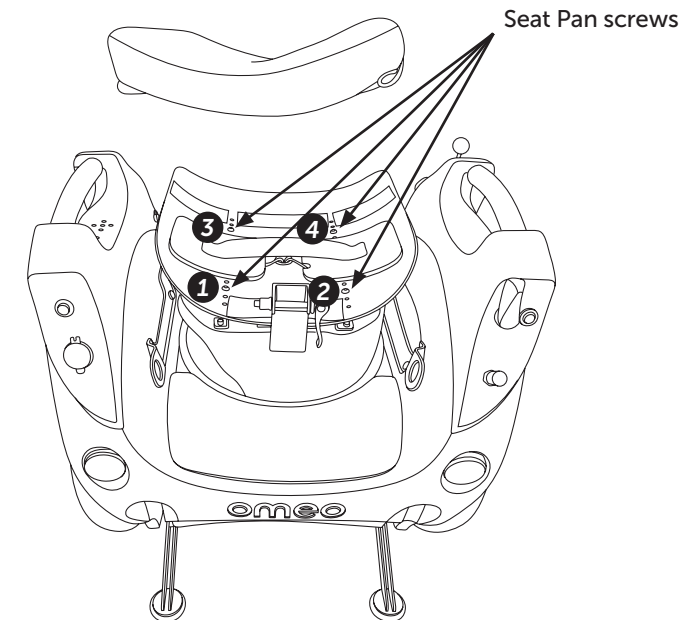

Figure 44: Adjusting the Seat Pan.
2. Loosen the nuts (with 10mm Spanner) and remove the 4 screws from the top of the Seat Pan as shown in **Figure 44**